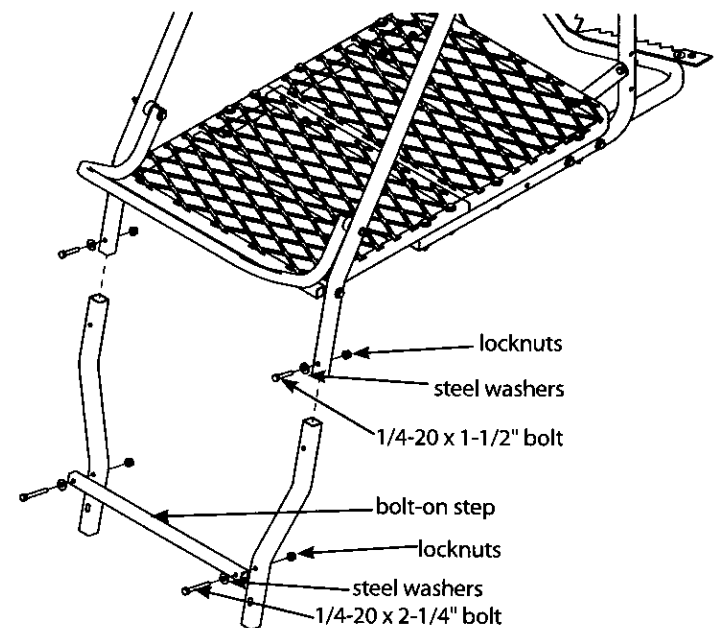

Figure 9
12. Insert the two side rails into the flared rails (410054). Secure using (2) provided 1/4-20 x 1-1/2" bolts, locknuts and steel washers. **SEE FIGURE 9.**
13. Attach the bolt-on ladder step (410034) to the front side of flared rails using (2) provided 1/4-20 x 2-1/4" bolts, locknuts and steel washers. **SEE FIGURE 9.**